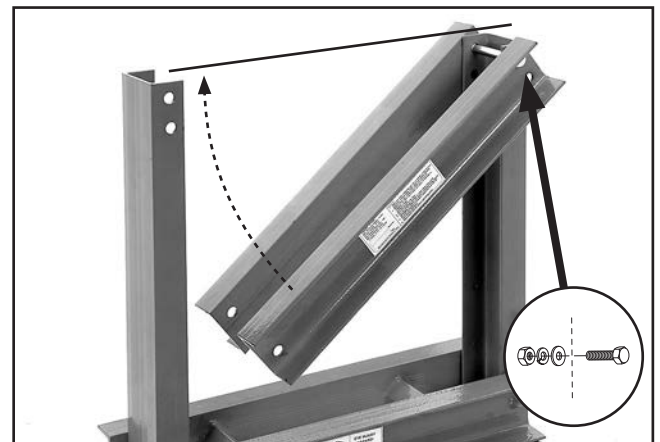

Figure 7. Upper U-beam installation.
6. Install the upper U-beams with one M12-1.75 x 110 hex bolt and finger-tighten with a 12mm flat washer, lock washer, and hex nut, as shown in **Figure 7**.